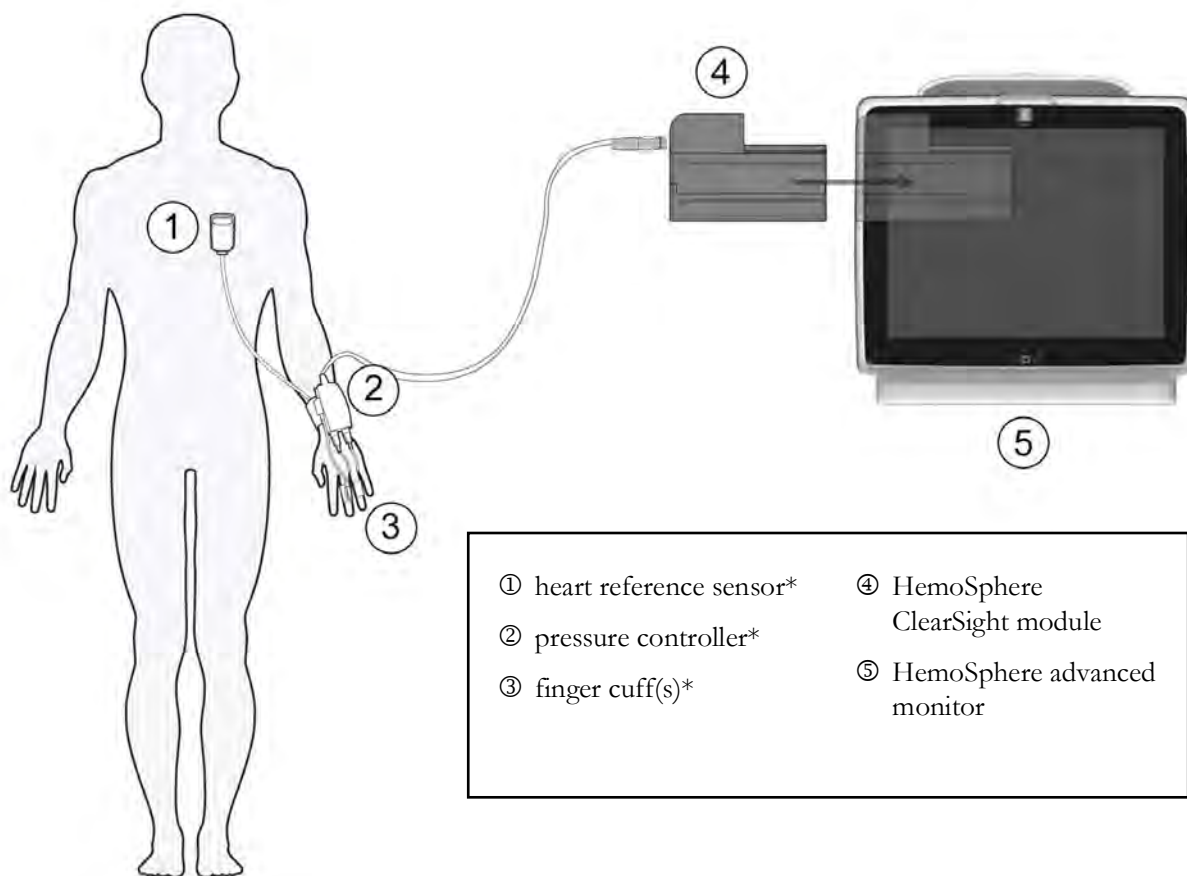

Figure 11-1 HemoSphere noninvasive system connection overview
The HemoSphere noninvasive system is composed of the HemoSphere advanced monitor with ClearSight module and connected pressure controller, heart reference sensor, and compatible Edwards finger cuff(s). See system connections in figure 11-1 on page 195. Accurate measurement of the patient's blood pressure and key hemodynamic parameters is based on the Volume Clamp method, Physiocal method and ClearSight algorithm.
The HemoSphere ClearSight module is compatible with all approved Edwards finger cuffs. See figure 11-1 for an overview of the HemoSphere noninvasive system connections.
NOTE Components indicated by * figure 11-1 legend are APPLIED PARTS as defined in IEC 60601-1 that in normal use necessarily come into physical contact with the patient for the HemoSphere noninvasive system to perform its function.
- 3 Attach the pressure controller cable to the HemoSphere ClearSight module. (figure 11-1)